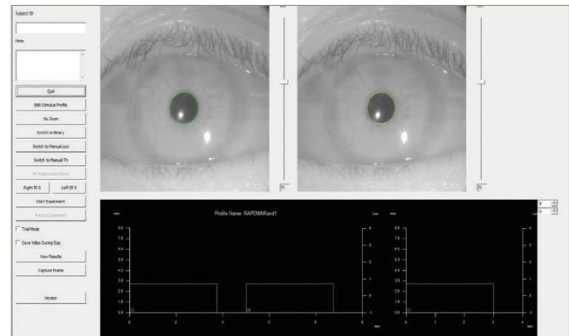

Figure 9 – The main program graphic user interface GUI.
All possible options to operate the program are listed in the left most side of the GUI (see Figure 9). The live video from the two cameras is displayed in the same GUI. Pupil tracking is represented by a circle fitting the contour of the pupil - the subject's left eye is displayed on the right and the subject's right eye is displayed on the left. This is to maintain the natural perspective of the examiner facing the subject during the examination. The left pupil (OS) is tracked with a yellow circle and the right pupil (OD) with a green circle. This association (left-yellow and right-green) is also used for display purposes (see below). Light stimulus waveform and the corresponding pupil response dynamics are shown together in the graph located at the bottom of the GUI. Note: the software version can be checked by pressing the Version button.
The first two windows on the top of the list (Figure 9) serve to enter information regarding the current measurement (Subject ID and Note). This information is attached to the master data result file produced at the end of the measurement and used for defining the name of the result file. Note: the following characters are not allowed to be used “. / \ [] : + | < > = ; , * ?” in the Subject ID.
The subject should be positioned close to the camera, with the eye in front of the lens, visible and well in focus in the center of the video display in the main GUI (Figure 9 and Figure 13). It is advisable to slightly rotate the two cameras nasally, in order to form a small angle between the two cameras (as opposed to keeping the cameras perfectly straight and parallel), for a better fit to the subject's eyes. A green circle should automatically track the right eye (Displayed on the left and a yellow circle tracks the left eye (displayed on the right). It is very important to